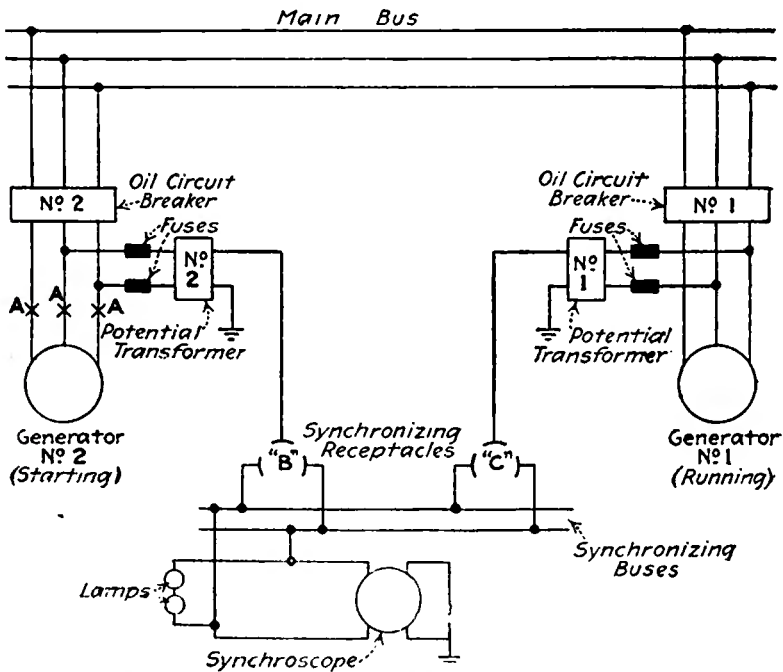

Figure 2—Diagram of connections for checking up synchrosopes in the paralleling of alternators
**H**OW to check up and put into operation a synchroscope is interestingly described in an article by C. Otto Von Dannenberg in a recent issue of the Electrical World. A diagram representative of conditions usually encountered in practice and which indicates only the necessary connections is shown in figure 2.